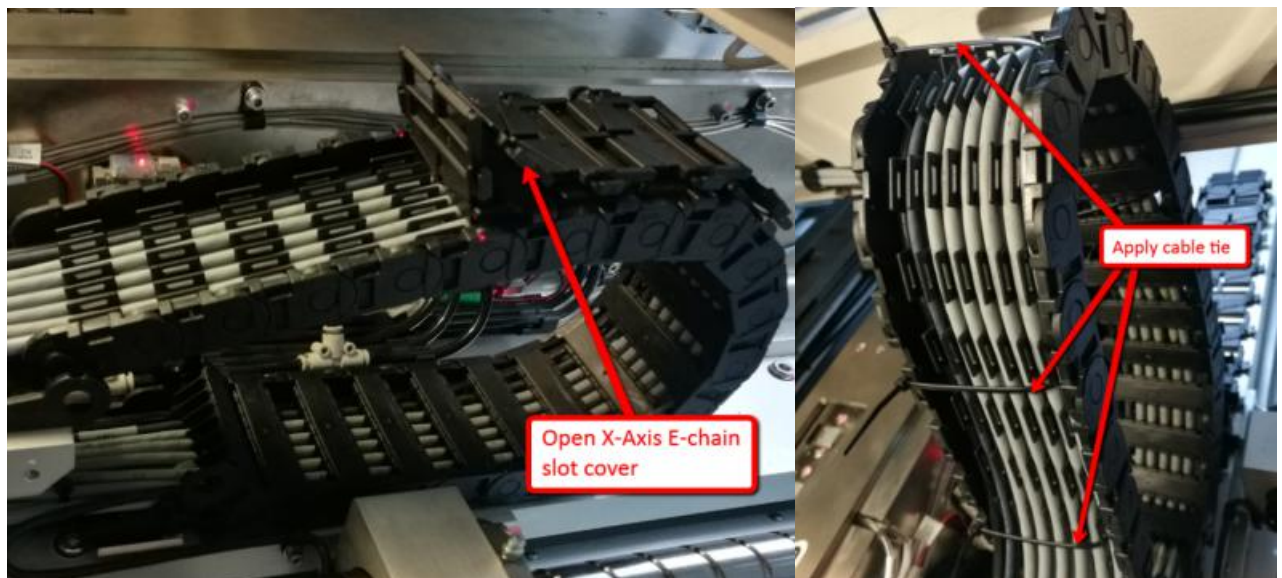

Figure 18
20. Open remaining X-Axis E-chain slot cover and apply cable ties after open each 2-3 slot covers as shown in Figure 18.